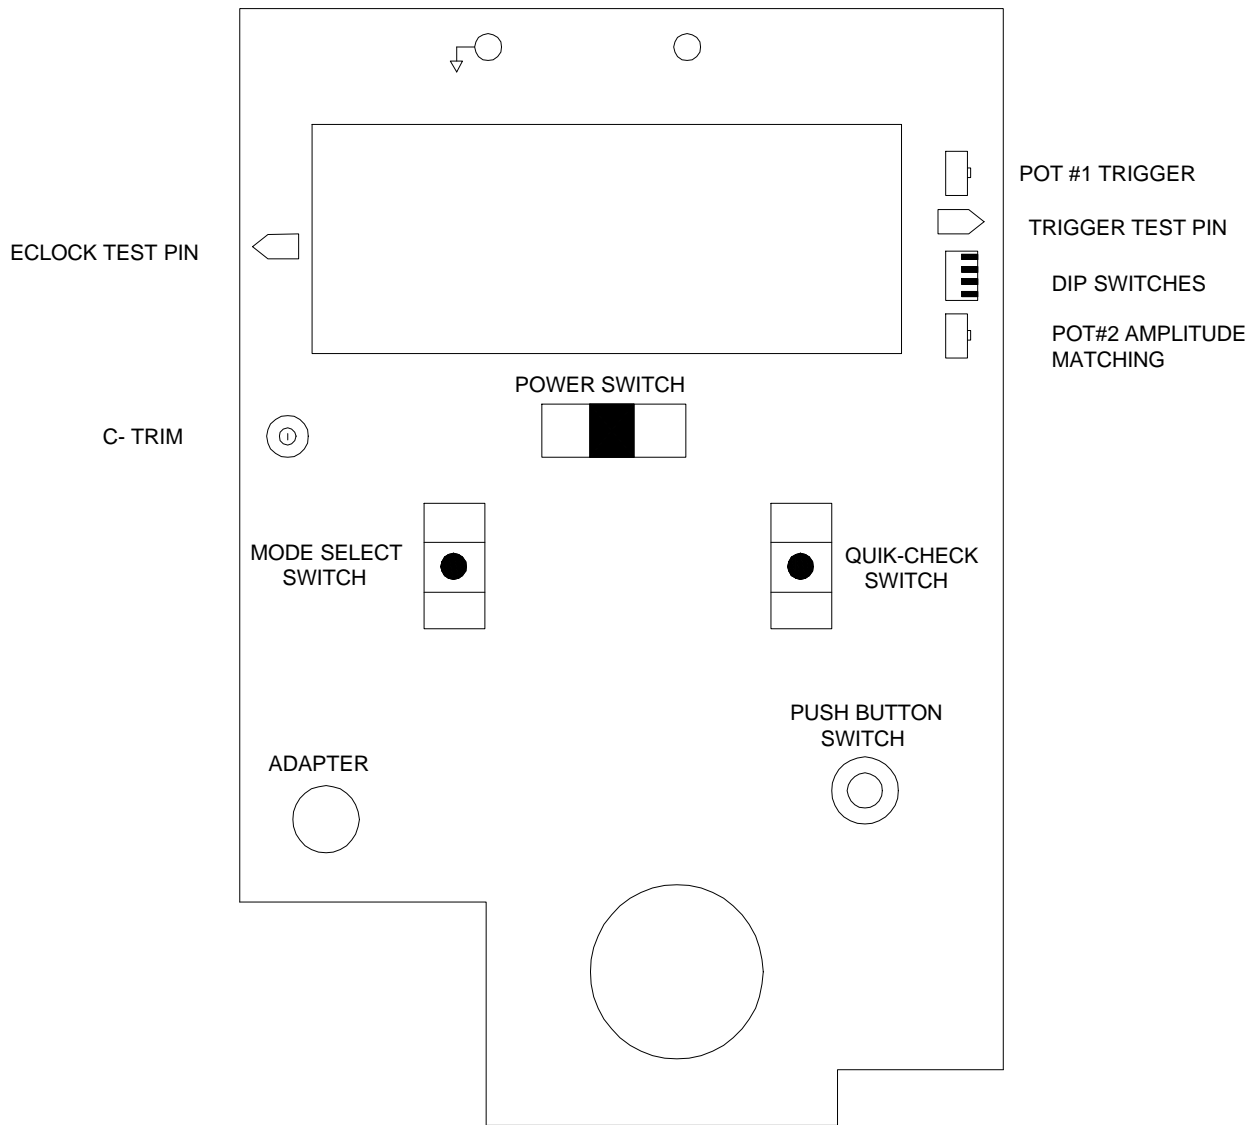

FIGURE 1
Please refer to figure 1 for the location of switches, test points and adjustment potentiometers.
- b) Connect the positive lead of the frequency counter to the ECLOCK TEST PIN on the digital (top) board of the 941/942 and the negative lead to the negative output of the 941/942. (Refer to Figure 1)
- h) Adjust C-TRIM until the frequency Counter is reading 2MHz ± 5 Hz. (Refer to Figure 1)
- e) Adjust POT #2 (Amplitude Matching Pot) until the Sine Wave is 6Vpp. (Refer to Figure 1)
- d) Short the inputs and connect the ground of the scope to the short. Connect the scope probe to the TRIGGER TEST PIN on the analog (middle) board of the 941/942. (Refer to Figure 1)
- g) Set the scope for DC coupling and adjust POT #1 (Trigger Pot) until the horizontal line is on the ground line of the scope. (Refer to Figure 1)